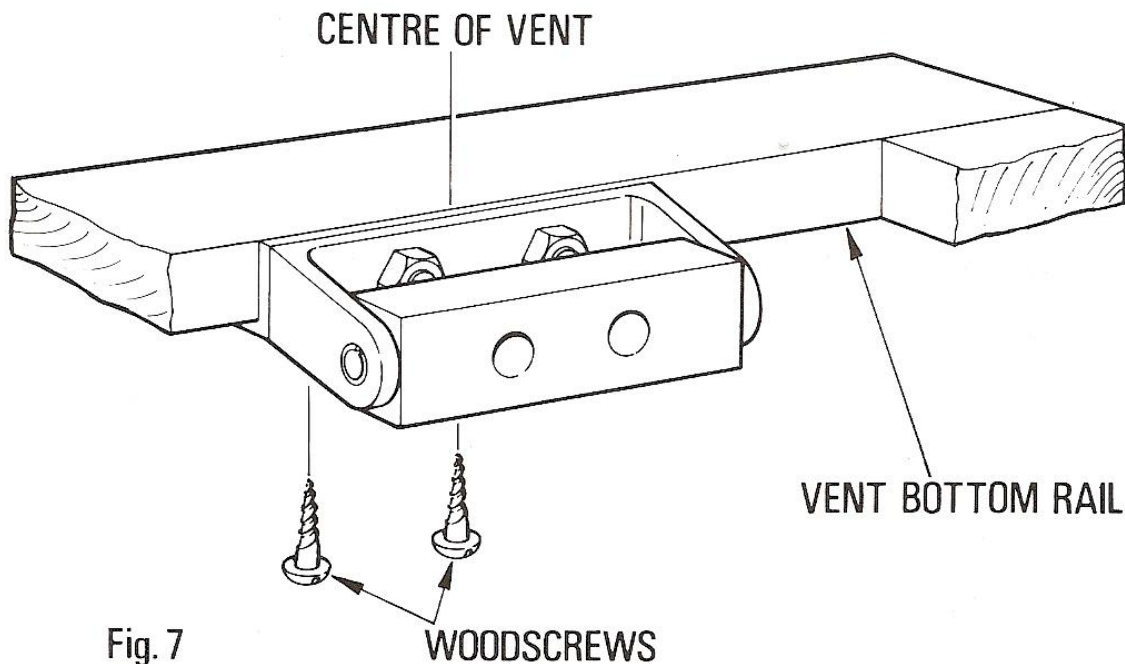

Fig. 7
2. Fasten the short angle bracket under the vent bottom rail using two of the wood screws from the screw pack. **See Fig 7.**